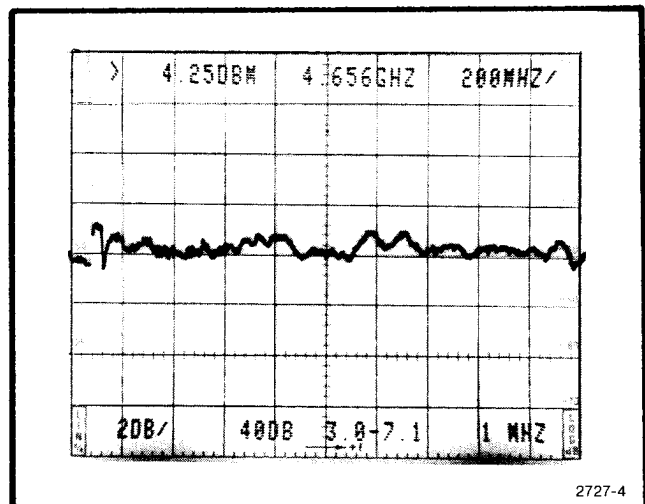

Fig. 3-6. Typical display showing frequency response from a sweeping signal source.
h. Set the sweep generator span so it sweeps from 0.01 to 2.2 GHz. Set the generator sweep mode for automatic internal sweep at its slowest sweep time (100 s). Monitor the power output as the generator sweeps across the span to ensure that the output remains constant. The frequency response (deviation from the mean) must not exceed ± 1.5 dB. A typical response for the frequency range of 3.6 to 5.6 GHz is shown in Fig. 3-6.
d. Slowly tune the frequency of the signal generator from 100 kHz to 10 MHz, monitoring the output to ensure it remains constant. Note the frequency response (amplitude deviation above and below the average). Frequency response or amplitude deviation must not exceed ± 1.5 dB. (See Fig. 3-6 for the average level.)
h. Check the frequency response as the sweep generator scans across the 10 MHz to 2 GHz span. Deviation must not exceed ± 1.5 dB. (See Fig. 3-6.)